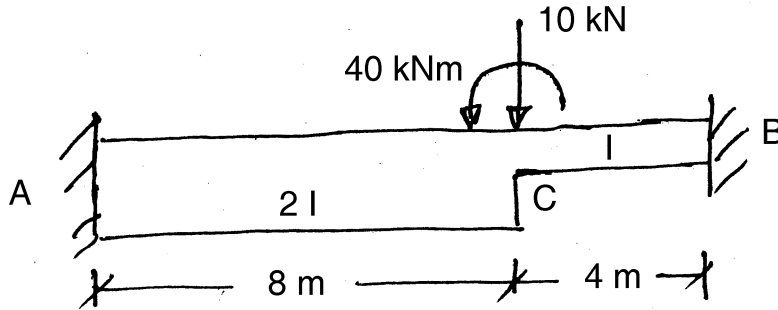

Fig. 5
5. Analyse the fixed beam shown in Fig. 5 by direct stiffness method. Draw BMD. 12